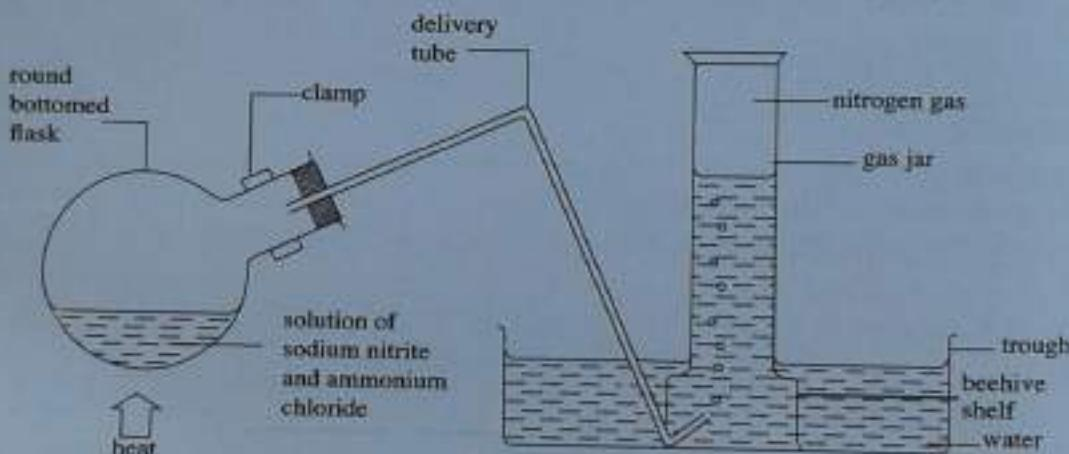

Fig. 2.4: Preparation of nitrogen
3. Arrange the apparatus as shown Fig. 2.4 below.